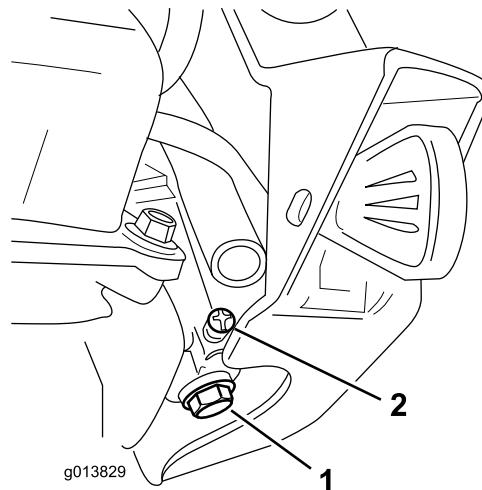

Figure 33
- Unscrew, but do not remove, the small screw on the side of the carburetor fuel bowl (Figure 33) until the fuel begins to drain from the carburetor. Drain the fuel into an approved fuel container.